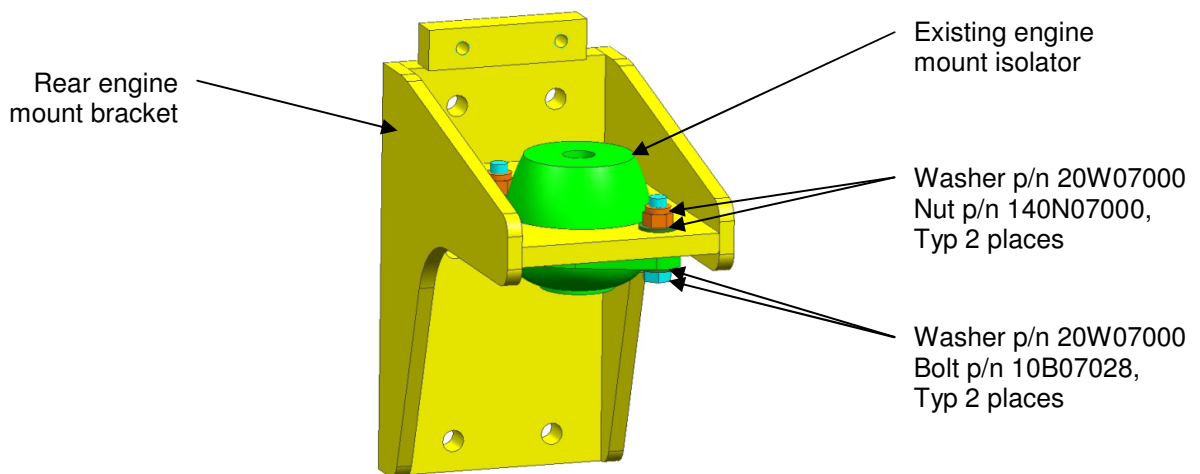

Figure 3: Engine Isolator Installation
- Remove the engine isolator from the existing rear motor mount bracket and discard the hardware and motor mount bracket. Save the isolator for the Step 8. See Figure 3.
- Install existing engine isolator removed in Step 7 to new rear engine mount bracket assembly p/n 494696 using bolts (10B07028), washers (20W07000) and Nuts (40N07000), torque to 50 ft*lbs dry. See Figure 3.